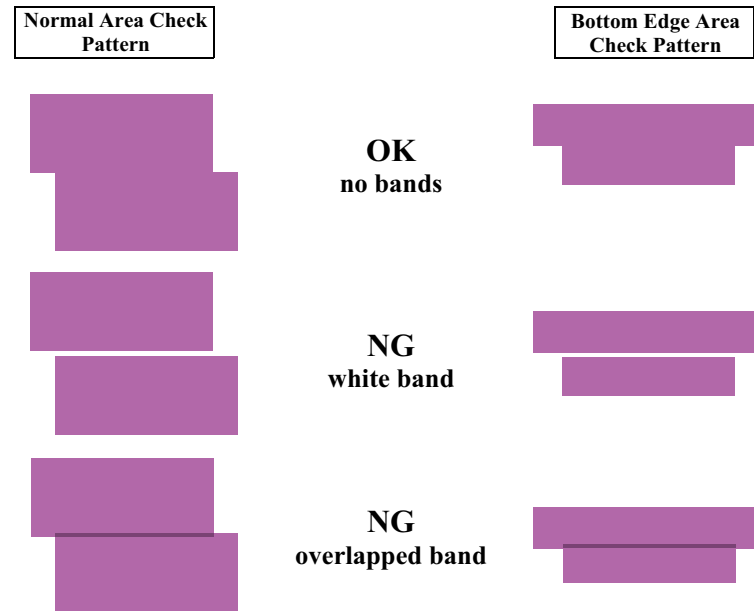

Figure 5-18. PFP Check Pattern Judging Standard
- 7. Referring to Fig. 5-18 check that there is no white or overlapped bands in all the check patterns. If any bands are found, carry out the steps below.